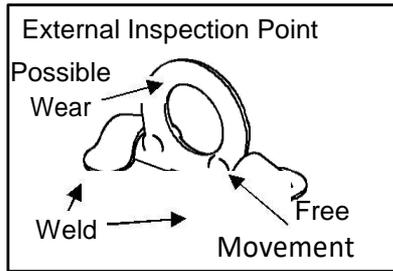

Figure 3
- ⌘ Regularly inspect weld-on load ring parts (Figure 3). Never use weld-on load ring that shows signs of corrosion, wear or damage.